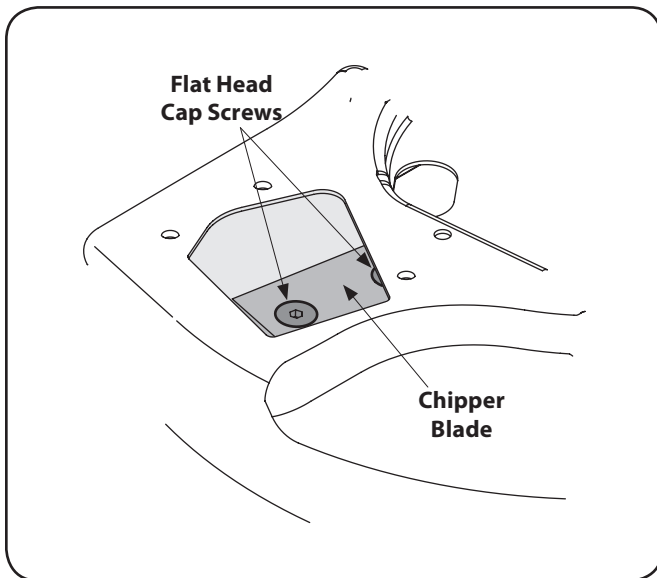

Figure 7-5
9. Using a 3/16" allen wrench, remove the flat head cap screws that hold the chipper blade to the impeller. These screws are accessible through the opening created when the chipper chute was removed earlier. See Figure 7-5.